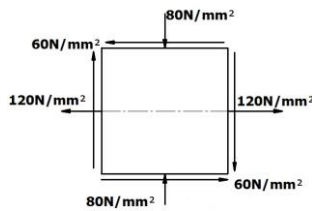

Figure 11
9. The state of the stress in two dimensionally stressed body is shown in **Figure 11** .Determine the principal planes, principle stresses ,maximum shear stresses and their planes(June/ July 08)